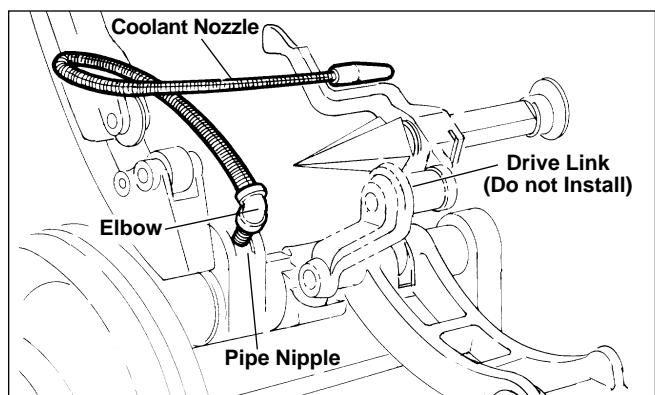

Figure 15 – Oil Spout Used With Geared Threader Close-Coupled Method (Old Style 535)
4. Old-style 535: Install replacement oil spout (*Figure 15*) which includes pipe nipple E-811, 90 degree elbow E-812 and coolant nozzle E-810 and 44340 pivot plug and o-rings.